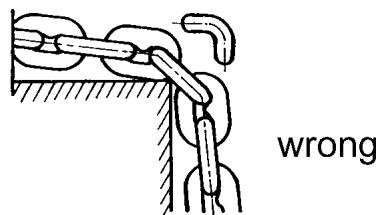

Fig. 7
- Prevent the chain from dragging over sharp edges or corners. These will cause links to weaken, bend, or break, (Fig. 7).